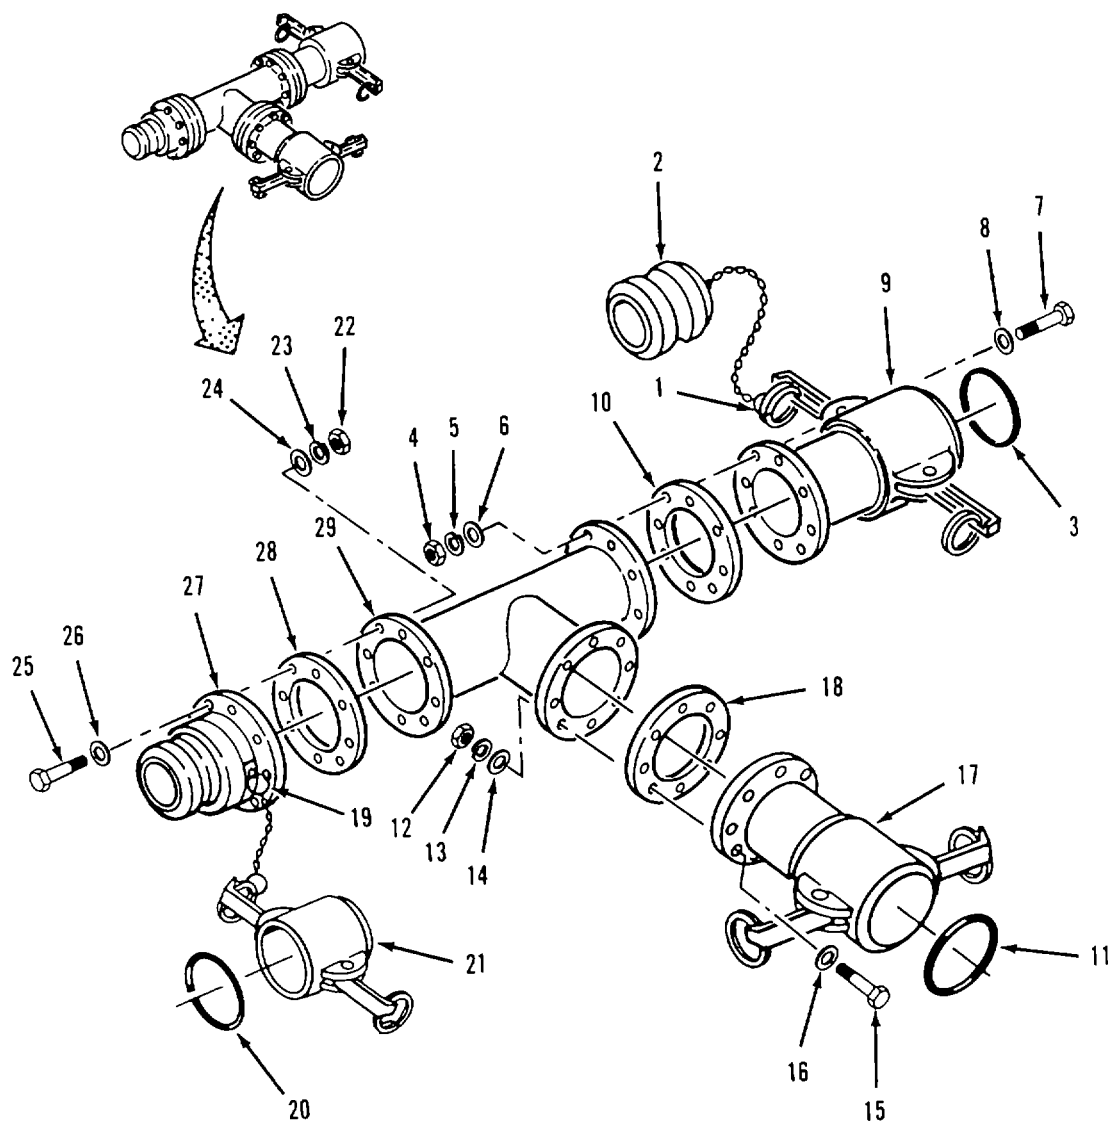

Figure 4-39. Tee Assembly (9115-Y) Assembly
- (1) Inspect male coupling (27) for cracks.
- (2) Inspect female couplings (9 and 17) for cracks and damaged lock arms.
- (3) Inspect tee (29) for cracks and corrosion.
e. Assembly. Refer to figure 4-39.
- (1) Position gasket (28) and male coupling (27) on tee (29).
- (2) Install eight flat washers (26), screws (25), flat washers (24) lockwashers (23) and nuts (22).